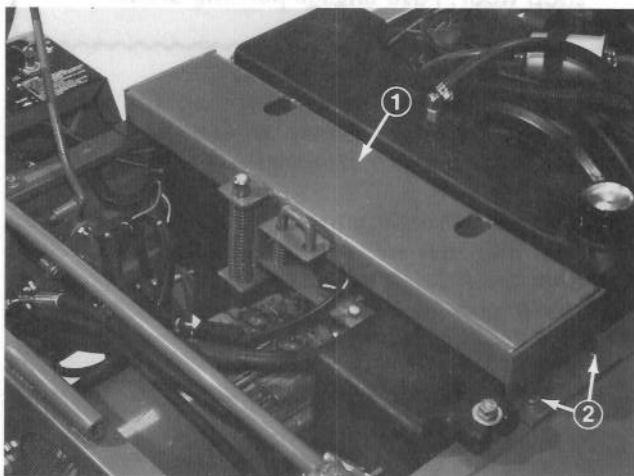

Figure 66
4. Unplug seat switch. Remove capscrews, lockwashers and flatwashers securing seat support to top of frame (Fig. 66). Set seat support aside.
3. Install seat support with capscrews, lockwashers and flatwashers. Connect seat switch (Fig. 66).